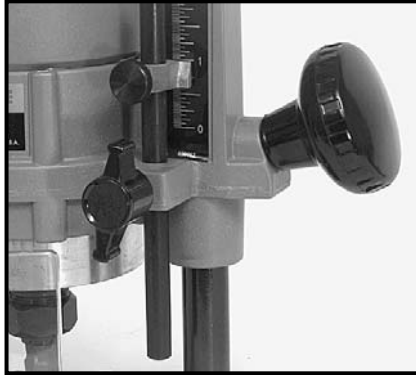

Fig. 12
6. Loosen depth rod locking knob and raise depth rod until indicator aligns with the graduation representing the desired depth of plunge. (The example in Fig. 12 shows setting for 1" plunge.)